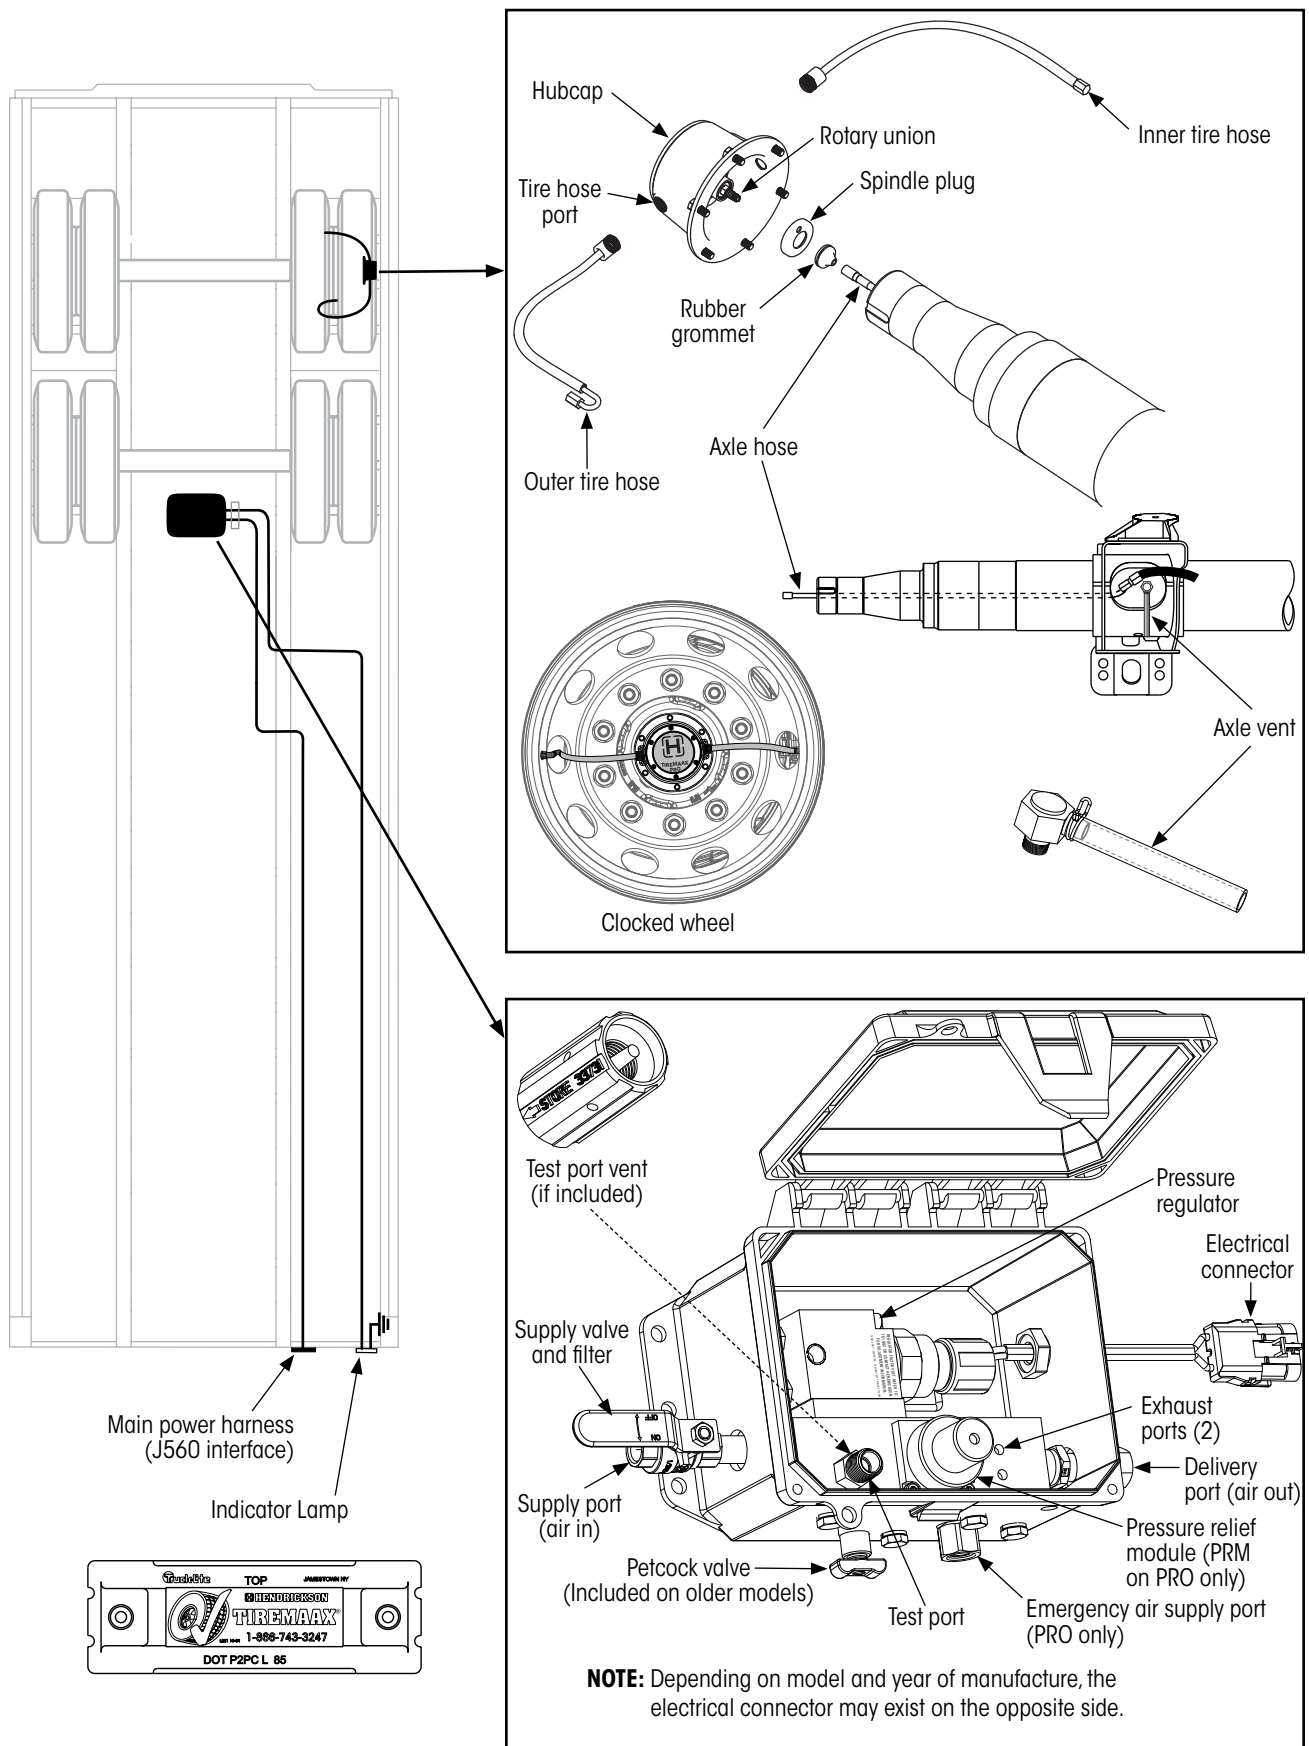

Figure 1: TIRESMAAX® components (PRO controller shown)
This section includes a brief overview of TIREMAAX® PRO and CP components. Refer to Figure 1 on previous page.
- If the indicator lamp (Figure 1) remains illuminated for more than 10 minutes as the system is attempting to inflate the tires but may not be able to adequately maintain proper tire pressure.